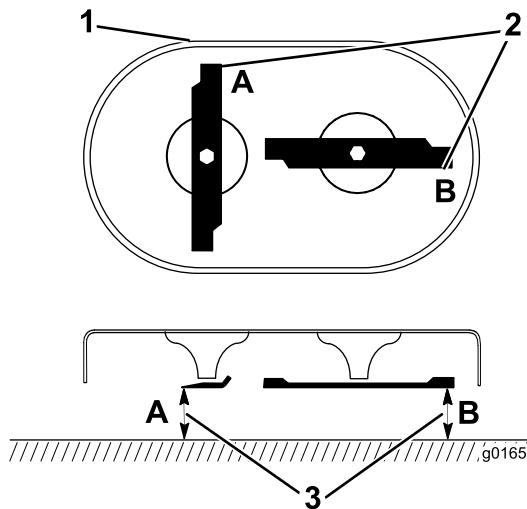

Figure 35
1. Rotate the blades until they are positioned as shown in Figure 35.
2. Measure from a level surface to the cutting edges at locations **A** and **B**, (Figure 35), and record both dimensions.